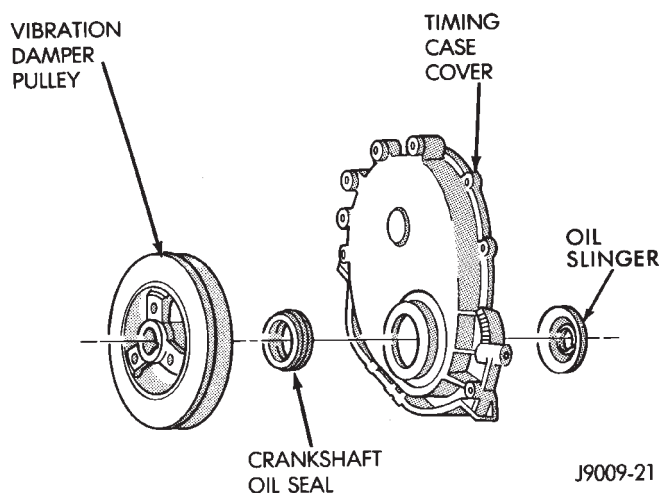

Fig. 4 Timing Case Cover Components
- (1) Disconnect negative cable from battery.
- (2) Remove the vibration damper (Fig. 4).
- (3) Remove the fan and hub assembly and remove the fan shroud.
- (4) Remove the accessory drive brackets that are attached to the timing case cover.
- (5) Remove the A/C compressor (if equipped) and generator bracket assembly from the engine cylinder head and move to one side.
- (6) Remove the oil pan-to-timing case cover bolts and timing case cover-to-cylinder block bolts.
- (7) Remove the timing case cover and gasket from the engine. Make sure the tension spring and thrust pin do not fall out of the preload bolt.
(8) Pry the crankshaft oil seal from the front of the timing case cover (Fig. 4).